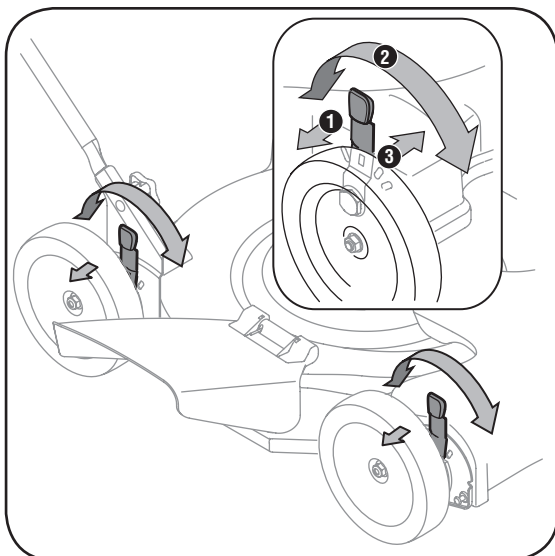

Figure 3-6: Use the lever at each wheel to adjust the cutting height.
1. Depress height adjustment lever towards wheel. See Figure 3-6.